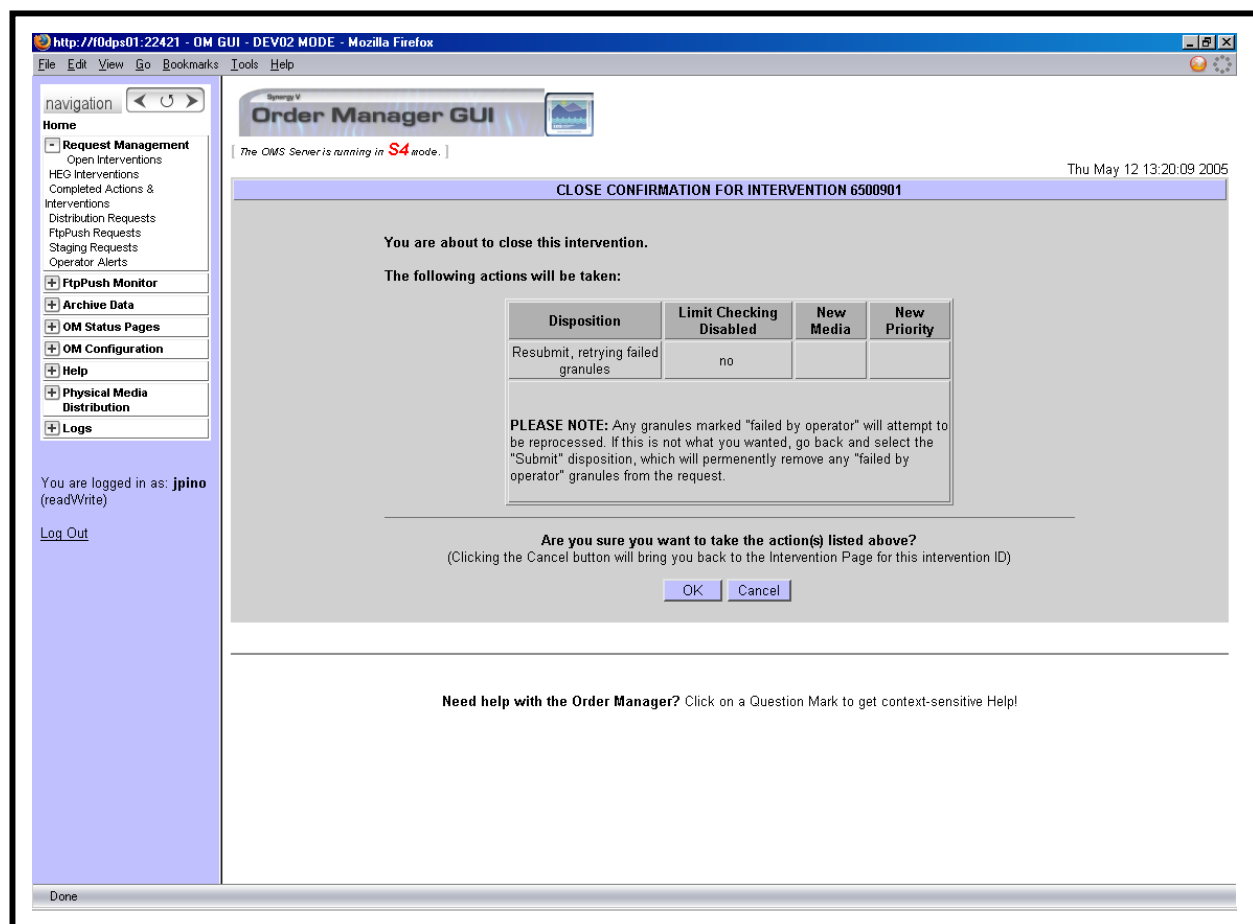

Figure 47. Close Confirmation Page for HEG Intervention
- A **Close Confirmation** page (Figure 47) is displayed.